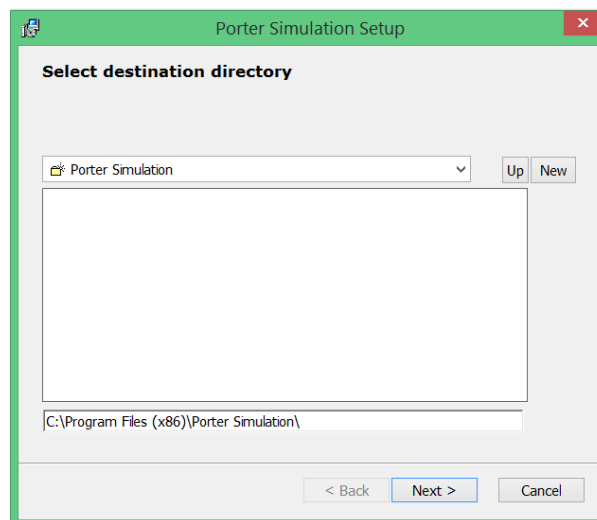

Figure 3.1: Pick a directory
- Figure 3.1: Installer (Page 3)